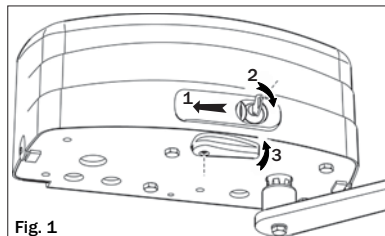

Fig. 1
UNLOCKING (fig. 1)
UNLOCKING, RL650 (fig. 1)
RL650 Fig. 1
RL651 Fig. 1
(Fig. 1) Remove the lock cover (ref. 1), insert the lock release key included and turn by approximately 90° towards the centre of the gate (ref. 2) without removing the key. Pull the lever to open completely (ref. 3). Manoeuvre the gate manually (ref. 4).